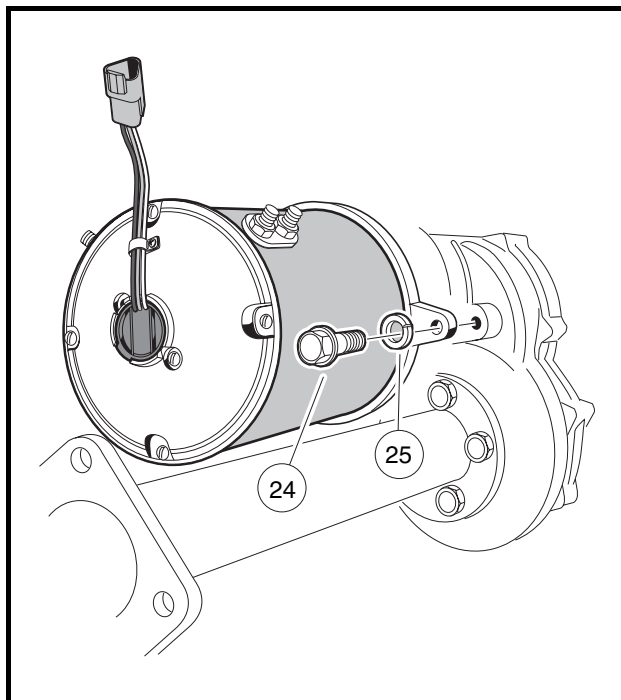

Figure 26-17 Motor Installation
- 4.7. Tighten the bolt (4) inserted through the tab to 155 in-lb (17.5 N·m) (**Figure 26-17, Page 26-14**).